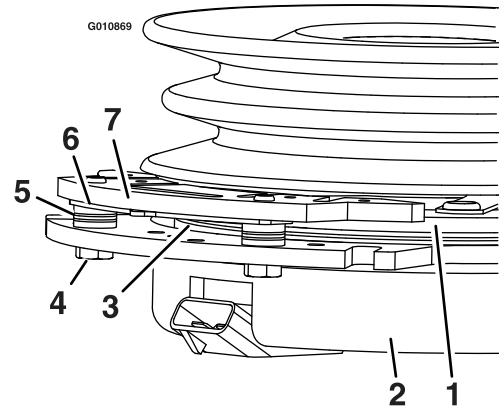

**Figure 72**
3. Remove the dust cap from caster and tighten the locknut (Figure 72).
4. Tighten the locknut until the spring washers are flat, and then back off a 1/4 turn to properly set the preload on the bearings (Figure 72).
**Important:** Make sure that the spring washers are installed correctly as shown in Figure 72.
5. Install the dust cap (Figure 72).